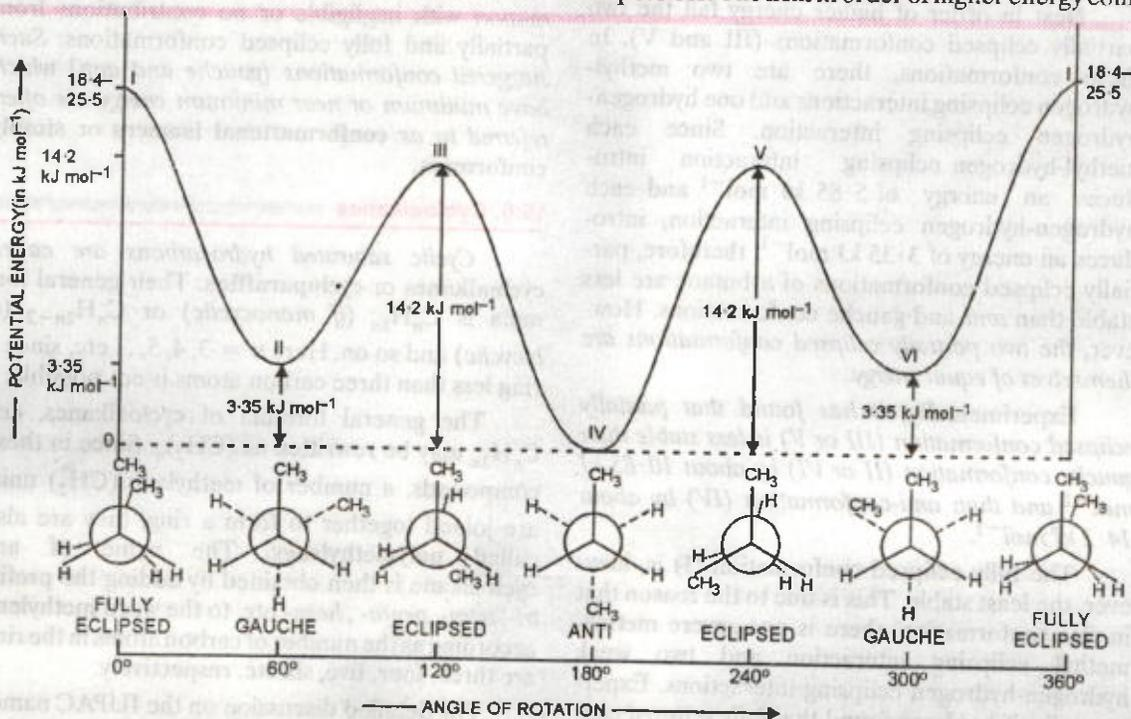

FIGURE 15.12. Changes in potential energy during rotation about C₂-C₃ bond in *n*-butane.
Thus from the above discussion, it follows that *n*-butane has four distinct conformations, i.e., anti-conformation (IV), gauche conformations (II and V), eclipsed conformations (III and V) and fully eclipsed conformation (I). Their relative potential energies are shown in Fig. 15.12.